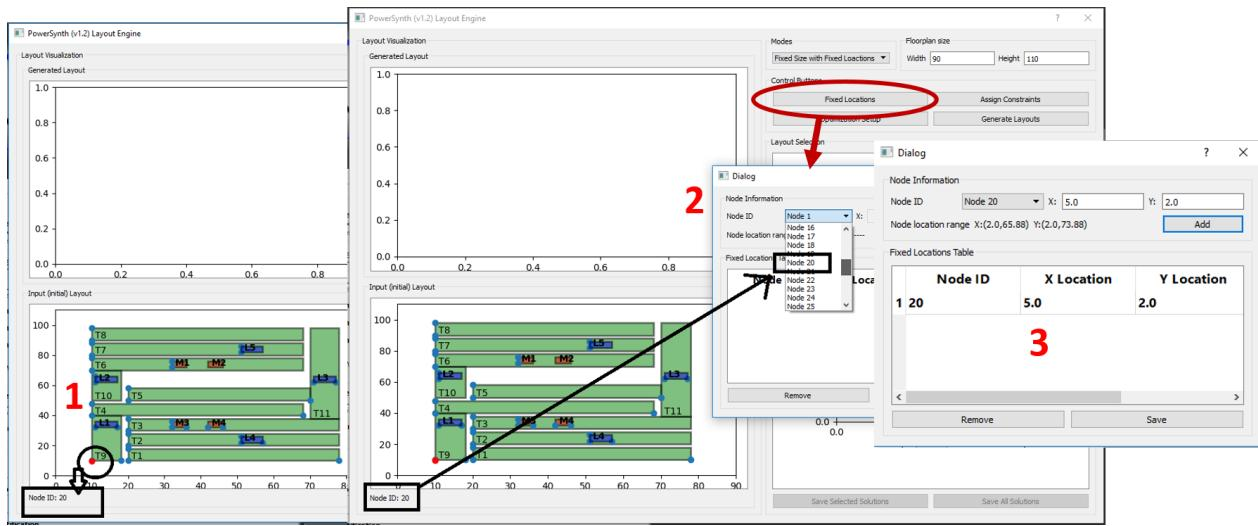

Figure 5: Fixed Location Setup
- **Fixed Size with Fixed Locations:** In this mode, “**Width**”, “**Height**” must be given. Besides, one additional requirement is the “**Fixed Locations**”. This button is used for allocating fixed coordinates to the desired nodes. On this mode, the input layout is updated with click-able dots on possible nodes of the layout as shown in Fig. 5 with marked as “1”. To fix a node at certain coordinate, user needs to click on the node and the “**Node ID**” will appear at the bottom. Then, “**Fixed Locations**” button needs to be clicked to find the desired “Node ID”. Upon selecting the “Node ID” from the drop down list, the valid x and y coordinate range will appear for that node. User needs to choose a value within the range and then “**Add**” button needs to be clicked to store the location. In the similar way, as much nodes as user want can
provide fixed location and then "Save" button needs to be clicked to apply the location values to the generated layout. A flow is shown in Fig. 5